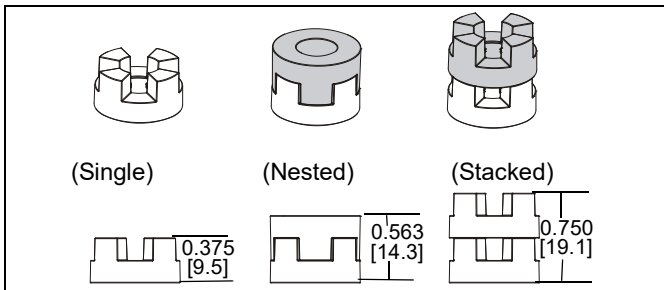

Figure 23
**NOTE:** The nesting spacers (PI) may be used separately, or put two together in different configurations to create different size spacers. (See Figure 23)